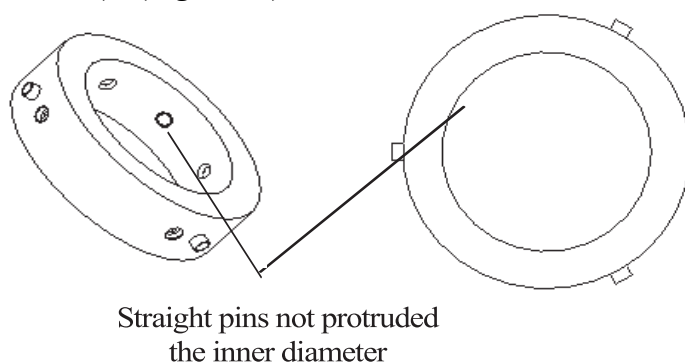

Figure 51 Fix steel
9.6.2.1 Fix 3 stainless steel 6×16 straight pins on the bushing (120° equally divided), and protrude the outer diameter of the bushing about 5mm, and the inner diameter positions should not be protruded. (Figure 51)